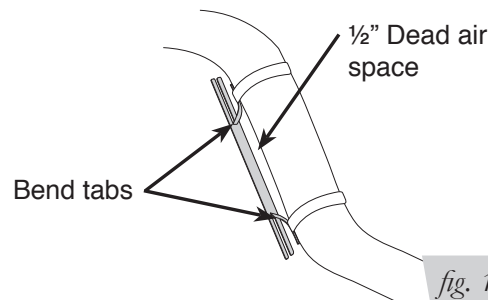

fig. 16
1. Bend tabs to provide a 1/2" dead air space between exhaust pipe and heat shield (fig. 16).
2. Attach the heat shield to the exhaust pipe using the clamps. Bend the heat shield for maximum clearance to the air spring (fig. 16).